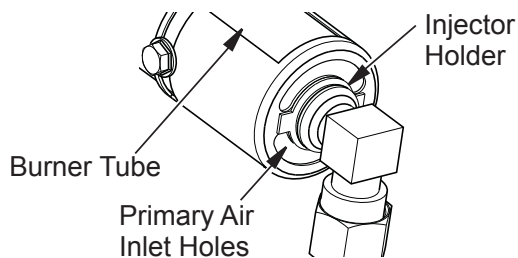

Figure 38 - Injector Holder On Outlet Burner Tube
2. Inspect burner, pilot and primary air inlet holes on injector holder for dust and dirt (see **Figure 38**, **Page 29**).